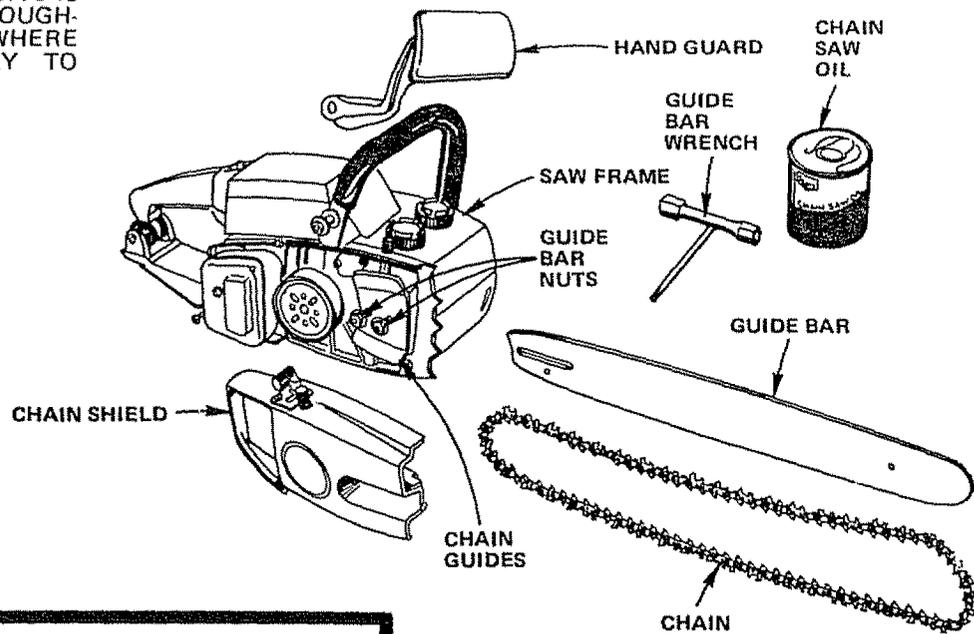

FIGURE 1
1. Identify the Saw parts (Fig. 1) as you remove them from the shipping carton. NOTE: THE GUIDE BAR WRENCH (FURNISHED WITH YOUR SAW) AND A 7/16" WRENCH ARE THE ONLY TOOLS YOU WILL NEED TO ASSEMBLE AND ADJUST YOUR SAW.